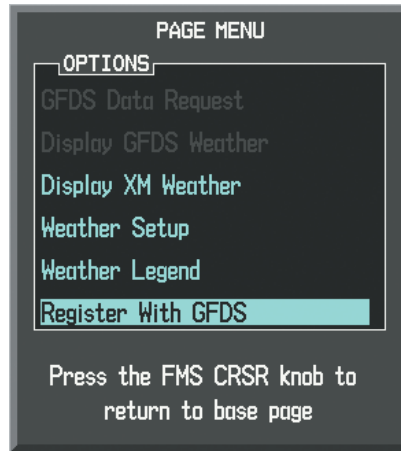

Figure 6-54 Select Register With GFDS
- 3) If the system displays the 'Garmin Flight Data Service Registration' window, proceed to step 6. Otherwise, press the **MENU** Key. The Page Menu window is now displayed as seen in Figure 6-54.